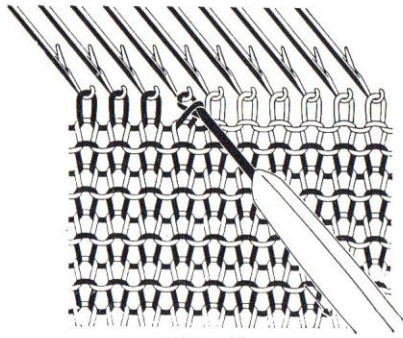

Fig. 32
- (2) Knit one ladder and make one stitch and transfer it on the empty needle. (See Fig. 32.)